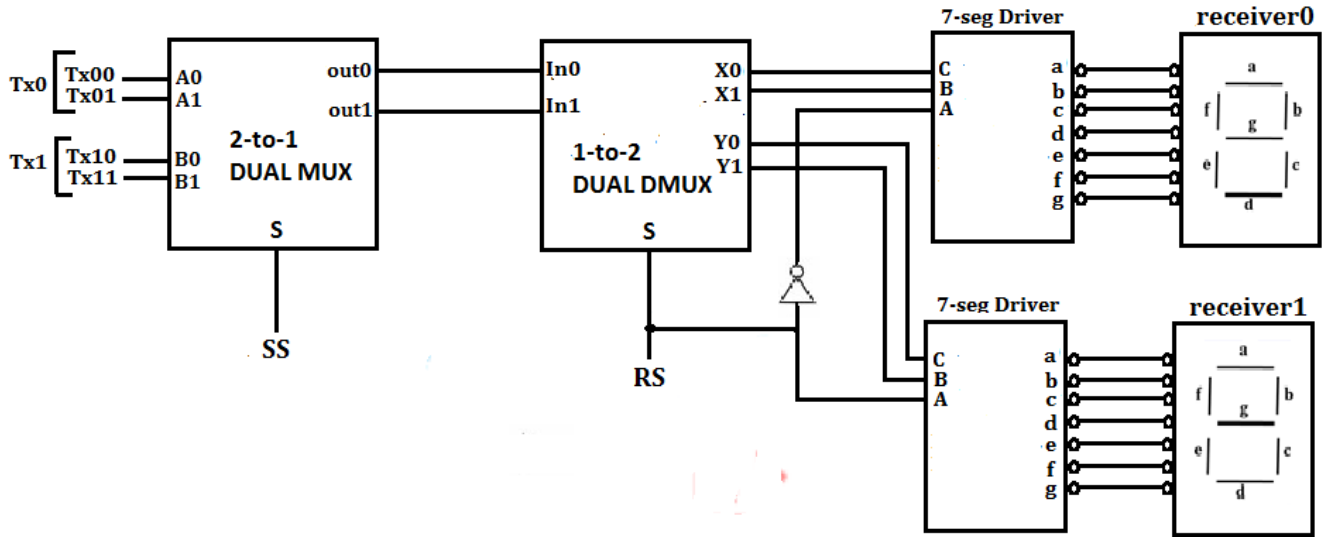

Figure1. 2- Bit TDM Communication Circuit
In this experiment, you will design the simple two-bit TDM communication circuit shown in Figure 1.
a) Implement the whole circuit which is shown in Figure 1 using Verilog code **structurally** in a module named *circuit1* inside the “**circuit1.v**” file. This module should have: